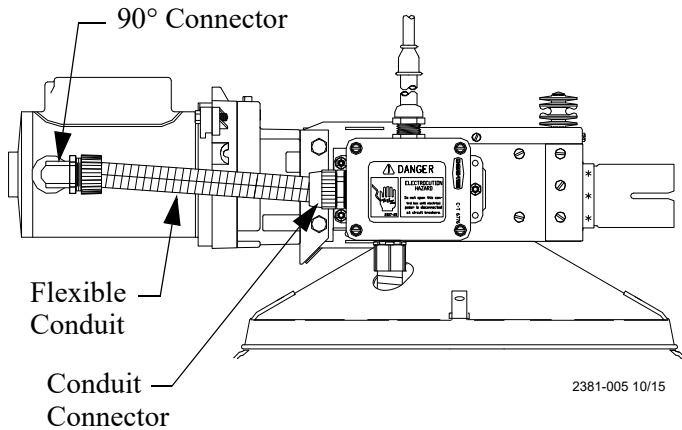

Figure 33. Conduit Installation
6. Single Phase: Install the 90 Degree Connector, flexible conduit, electrical wire, and Conduit Connector as shown in **Figure 33**.